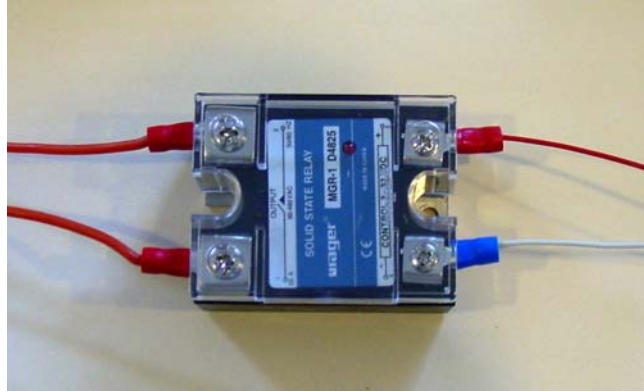

Figure 10a. SSR wiring.
- 1) Assemble the cables on SSR as illustrated in Fig 10a. The two red colored thick cables with soft silicone rubber insulation should be connected to the terminal marked as 1 and 2. It doesn't matter which of the two thick red cables goes to 1 or 2. The red colored the thin cable should be connected to 3 (+). The white colored thin cable should be connected to 4 (-). The clear plastic protection cover on the SSR can be removed for easy installation of the cable. Tighten the screw. Make sure the cables hold secure.